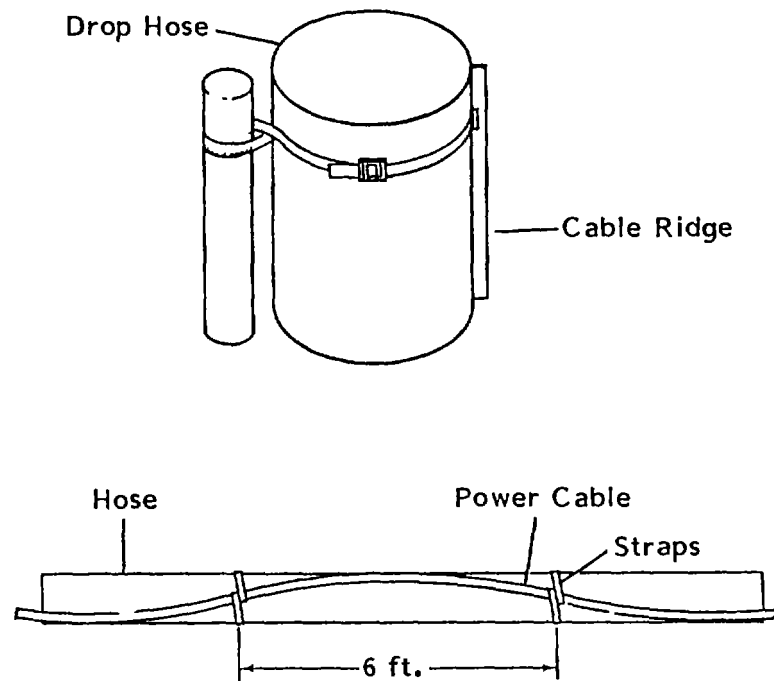

Figure 2-51. Strapping Cable to Hose
- (4) Anchor the well-head roller to the rig using anchor chains or cable.
- (5) Using the rig tender crane, pick up the roll of drop-hose and position it so that the hose lays across the truck cab. Slowly back the rig tender away from the hole, unrolling 50 feet of hose along the ground.
- (6) Attach another hose elevator clamp, anchoring the clamp to the front of the rig tender. Loosen both nuts of the hose elevator clamp and move the swing bolt aside. Position the clamp half with the lifting loop to the side of the drop hose opposite the cable ridge.
- (7) Close the hose elevator clamp on the hose and reposition the swing bolt. Tighten both nuts finger tight; be sure the hose is square and centered in the clamps. Tighten both nuts equally, torquing to 40 ft lbs. Be sure the clamp faces remain parallel.
- (8) Roll the power cable out alongside the drop hose. Attach the cable to the hose using cable straps as shown in figure 2-51. Straps should be inserted at 6-foot intervals. Allow slack in the cable between straps as shown in the illustration, to allow for extension of the drop hose under service. The cable should be approximately 2% longer than the hose length.
- (9) Drive the rig tender in reverse to raise the well-head clamp sufficiently for removal; then remove the clamp.